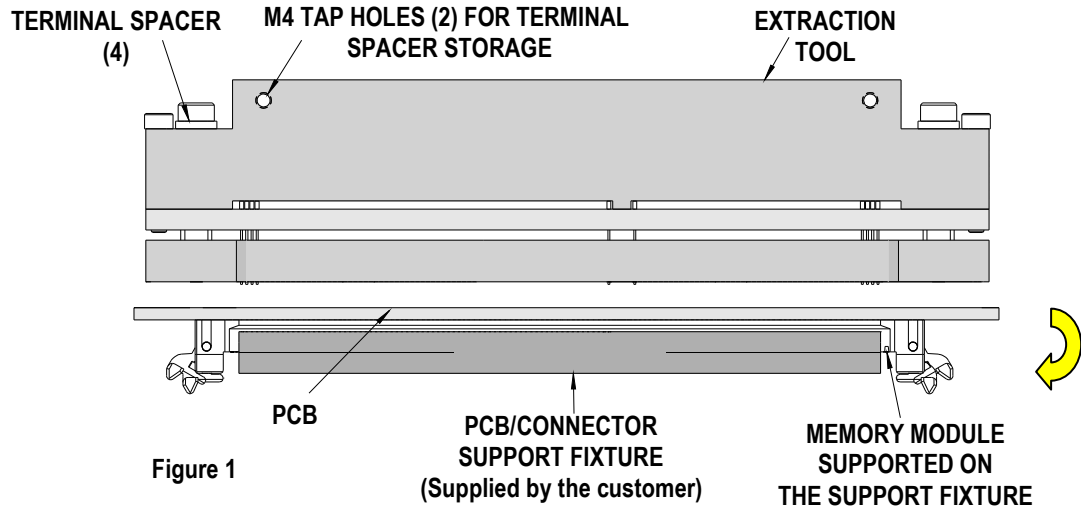

Figure 1
1. Position the Memory Module with the printed circuit board in the correct orientation as shown in Figure 1. Make sure that the Memory Module is seated correctly in the PCB/Connector support fixture. (Supplied by the customer. See Page 3.)